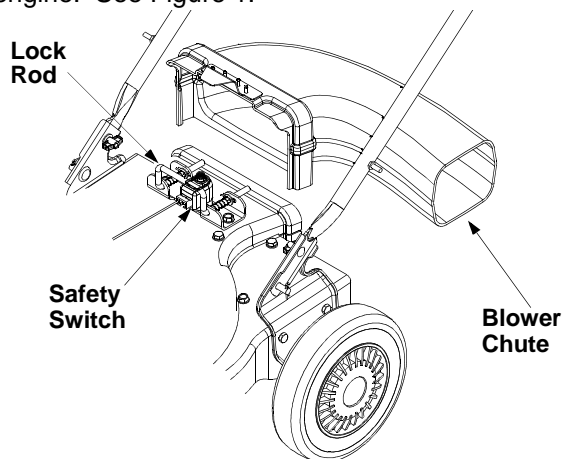

Figure 1
1. Grasp blower chute with one hand and pull lock rod on mounting bracket with other hand toward engine. See Figure 1.
1. Grasp blower chute with one hand and pull lock rod on mounting bracket with other hand toward engine to release. See Figure 1.